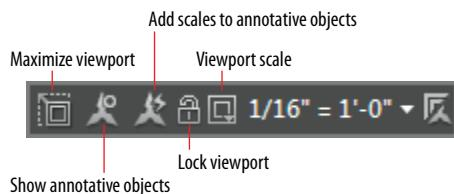

FIGURE 13.15 The status bar's appearance when a floating viewport is active
- Choose $1/16" = 1'-0"$ (or 1:200 in metric) from the Viewport Scale menu button on the status bar, as shown in Figure 13.15. The viewport zooms into the building core, which is in the center of the plan. At this exact zoom magnification, the plan appears in $1/16"$ scale (or 1:200) in the layout.